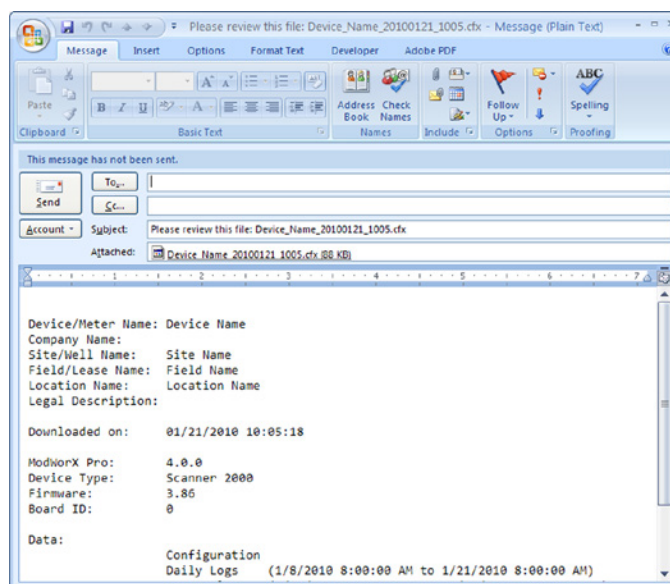

Figure 14.35
3. Click **Save** to save the data to the file. The .CFX file will automatically be attached to an email window (Figure 14.35).